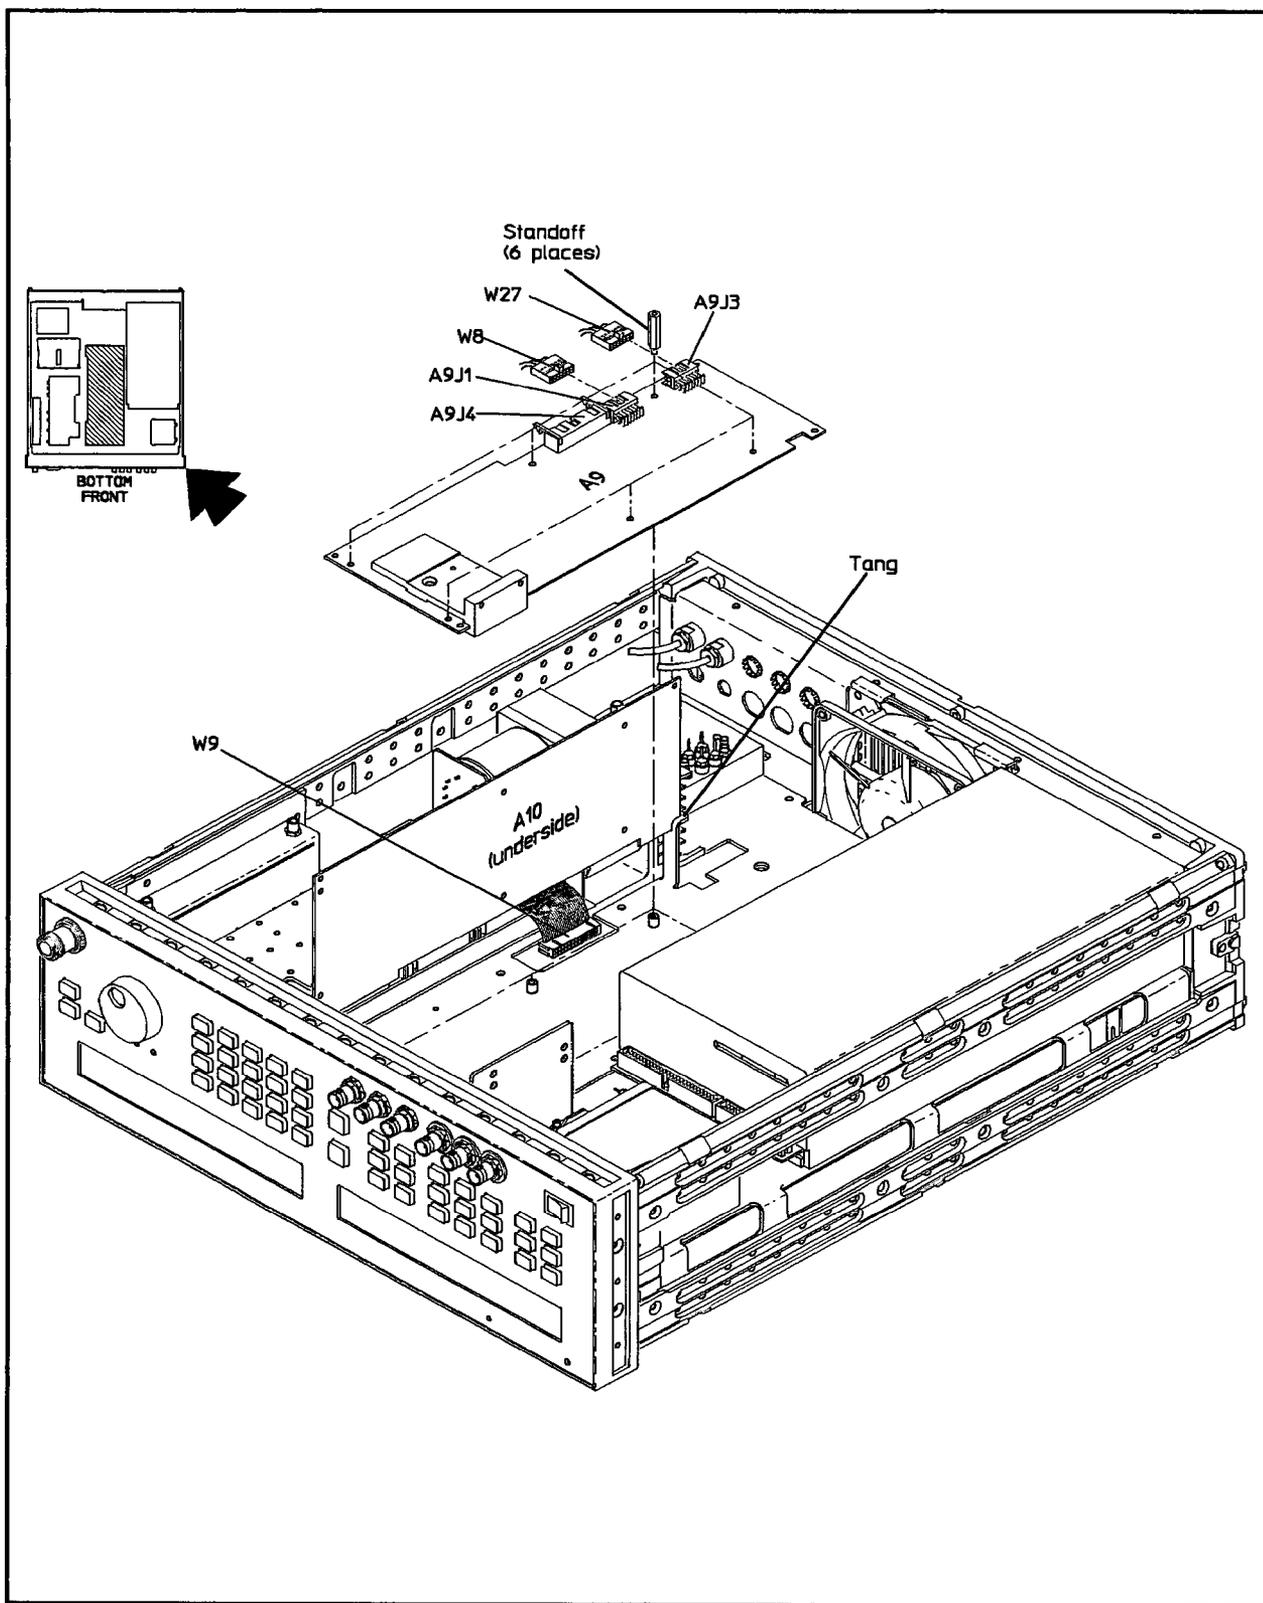

Figure 5-27. YIG Driver Board Removal
2. In the introduction to this chapter, refer to “Multi-wire Cables” and Figure 5-27. Then, disconnect the following cables: